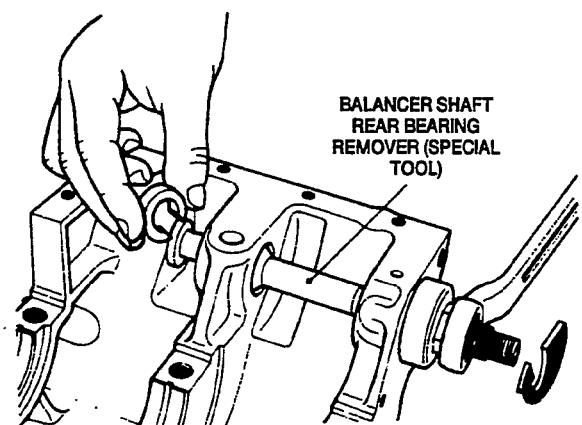

FIGURE 9-34. REMOVING BALANCE SHAFT REAR BEARING
2. Remove the balancer shaft rear bearing using special tool "Balancer Shaft Bearing Remover" as shown in Figure 9-34. Remove the bearing by tightening the nut.